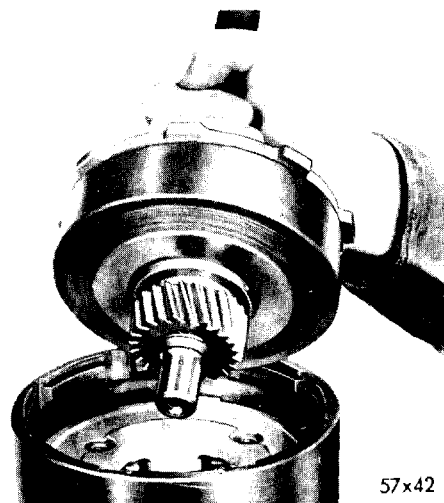

Fig. 24—Removing or Installing Input Shaft and Kickdown Planet Pinion Carrier Assembly
(3) Remove the input shaft, kickdown planet pinion carrier assembly and kickdown annulus gear from carrier housing, as shown in Figure 24.